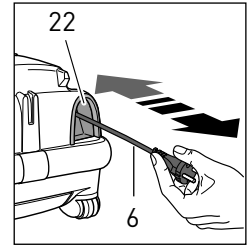
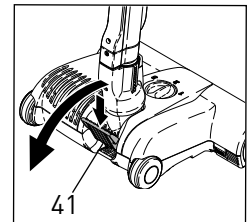
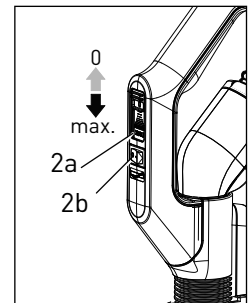

Figure 1
Figure 3 - K3
Figure 4 - K3
K3 Premium Users - Figures 1, 2, 3 & 4
1. With the canister main power knob (9) in the OFF position, and the suction-control slider on the handle (#2a, figure 4) in the OFF position, pull the power cord out from the base of the canister (figure 1). The power cord should be unwound from the cable reel at least two thirds of its length.
3. Press the main power knob (9) on the base of the canister gently with your foot or hand. The green light (10) will illuminate indicating that the power is on..
4. Slide the suction-control slider (#2a, figure 4) toward the MAX position. It will move freely between 0 suction and MAX suction. Set the slider to the suction desired.
5. When the power head is on with the handle in the upright locked position, the brush roller will not spin. To release the ET-1 power head from the upright locked position, press down on the foot pedal, (#41, figure 3), lower the handle into the normal operating position and push the brush roller switch on the handle (#2b, figure 4) to engage the brush roller. The green light on the power head will illuminate. The handle can be lowered to a horizontal position useful for vacuuming under beds.
K2 Turbo and K2 Kombi Users - Figures 1 & 2
1. With the canister main power knob (9) in the OFF position, pull the power cord out from the base of the canister (figure 1). The power cord should be unwound from the cable reel at least two-thirds of its length. **Note:** do not over-extend the cord.
3. Press the main power knob (9) on the base of the canister gently with your foot or hand.
K3 Premium Users - Figure 4